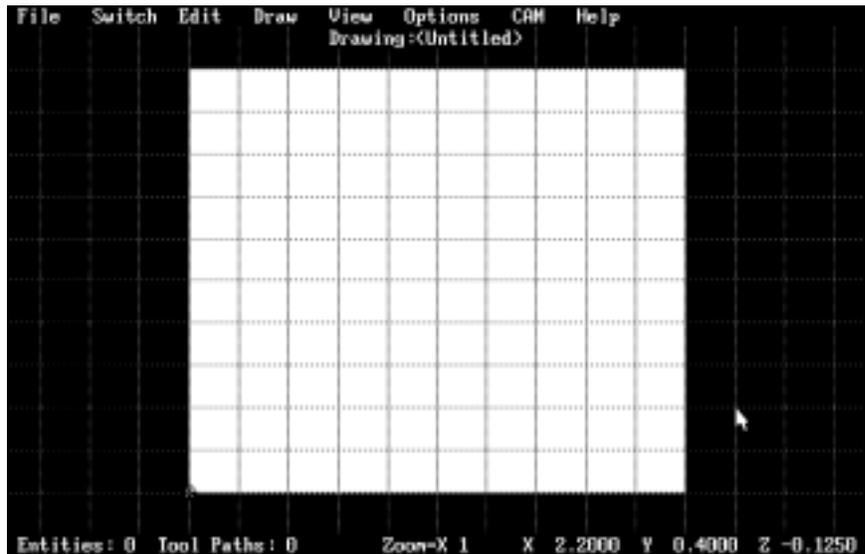

Figure 4.1.2 Startup Screen
1. Choose **Options-Load Setup** with the mouse or <ALT>-O L from the keyboard. Select MILL.MSU and choose [OK]. This will reconfigure MultiCAM Mill with the parameters entered in the previous section. The screen should now look like **Figure 4.1.2**.